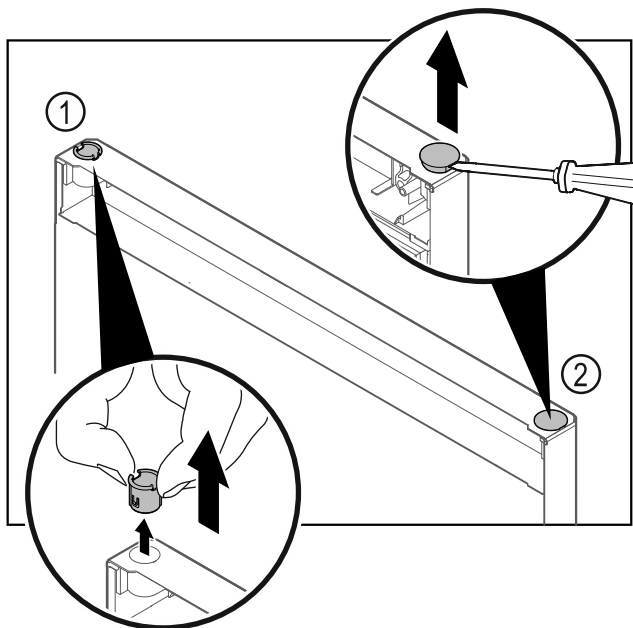

Fig. 35 Freezer compartment door
- ▶ Pull out the hinge bushing Fig. 35 (1) with your fingers.
- ▶ Carefully lift the cover plug Fig. 35 (2) with a slotted screwdriver and pull it out.